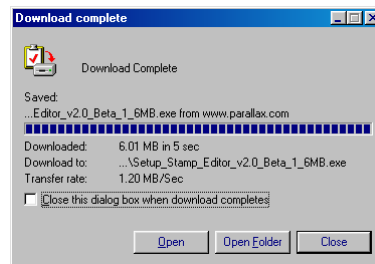

Figure 1-13: Download Complete
- √ When the download is complete, leave the window shown in Figure 1-13 open while you skip to the next section - Activity #2: Installing the Software.